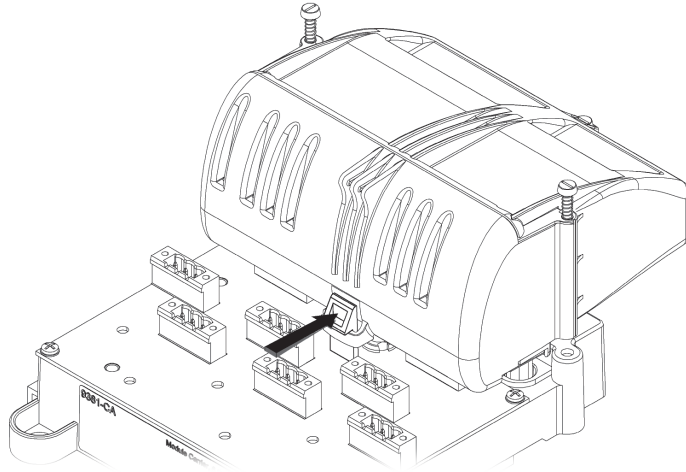

Figure 5.2 - Safety retaining clip for barrier
- Slowly pull the fieldbus barrier module away from its connections on the carrier until the safety retaining clip stops further removal. See Figure 5.2.